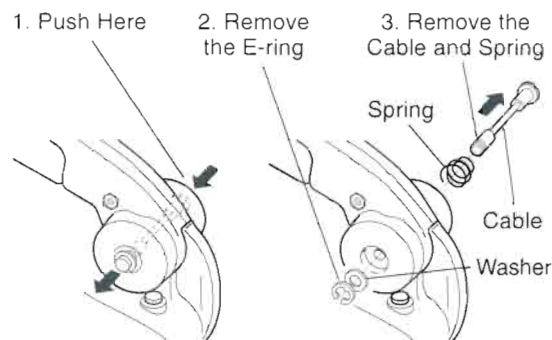

Figure 13.14 Removing the E-ring
STEP 3. Remove the E-ring from the cable securing the handle to the rear of the saw (Figure 13.14).